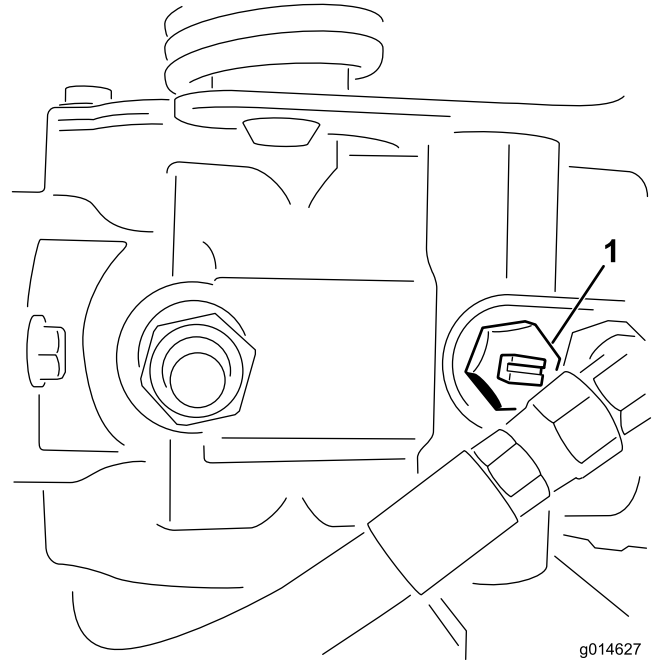

Figure 26
1. Locate the bypass valve on the pump and rotate it so that the slot is vertical (Figure 26).
2. Before starting the engine, close the bypass valve by rotating it so that the slot is horizontal (Figure 26).